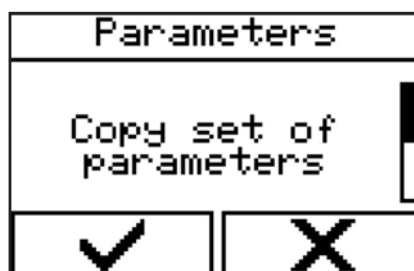

Figure 129 - Selecting a menu
1. Select the menu via 'Control' → 'Parameter' → 'Copy set of parameter' (Figure 129).